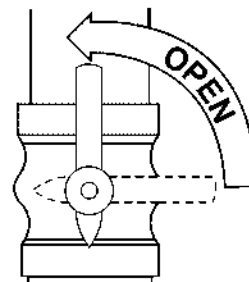

Fig. 11 - Open Valve
8. Replace the outer door and tighten the thumbscrew. See Fig. 11.
10. Open the external manual gas valve. See Fig. 11.